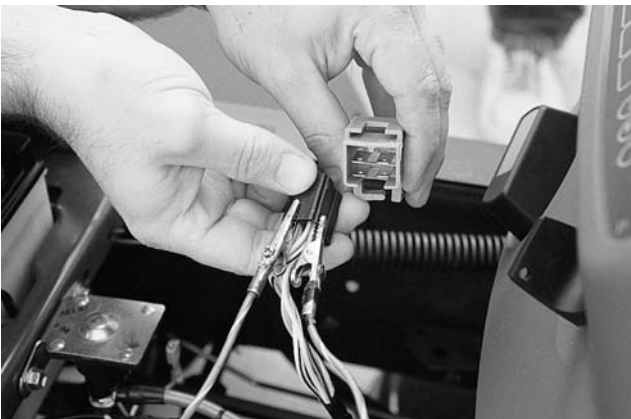

Figure 3-33.
17. For units without an electric PTO, raise the deck lift lever fully and make sure the plunger on the safety switch is fully depressed. Attempt to start the unit. If it does not crank, remove the PTO switch. Using a jumper wire, connect between the two orange terminals. If the unit now cranks, replace the deck lift lever safety switch. See Figure 3-33.